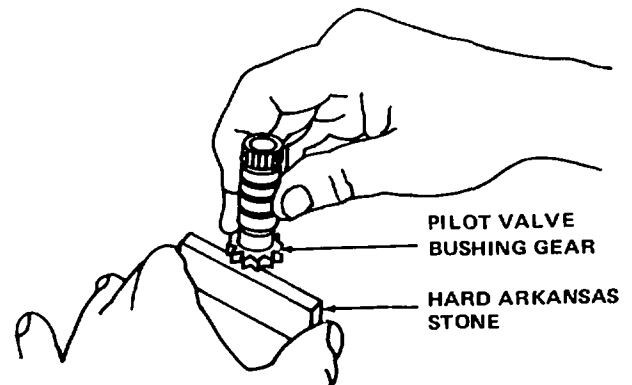

Figure 11-12. Honing Governor Pilot Valve Bushing Gear
(6) Hone sides of gear on pilot valve bushing (74) as shown in figure 11-12.